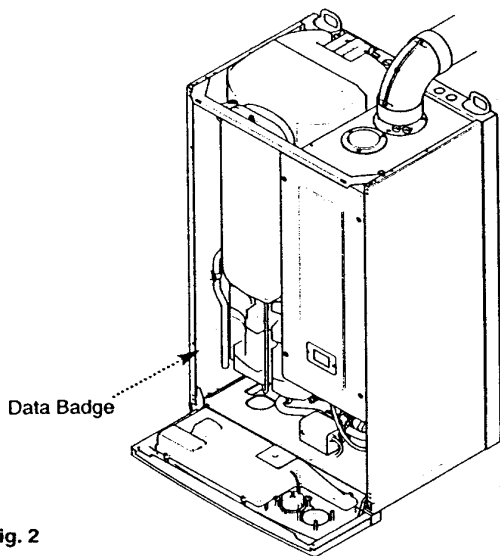

Fig. 2
8. The boiler data badge is positioned inside the left hand outercase panel (Fig. 2).